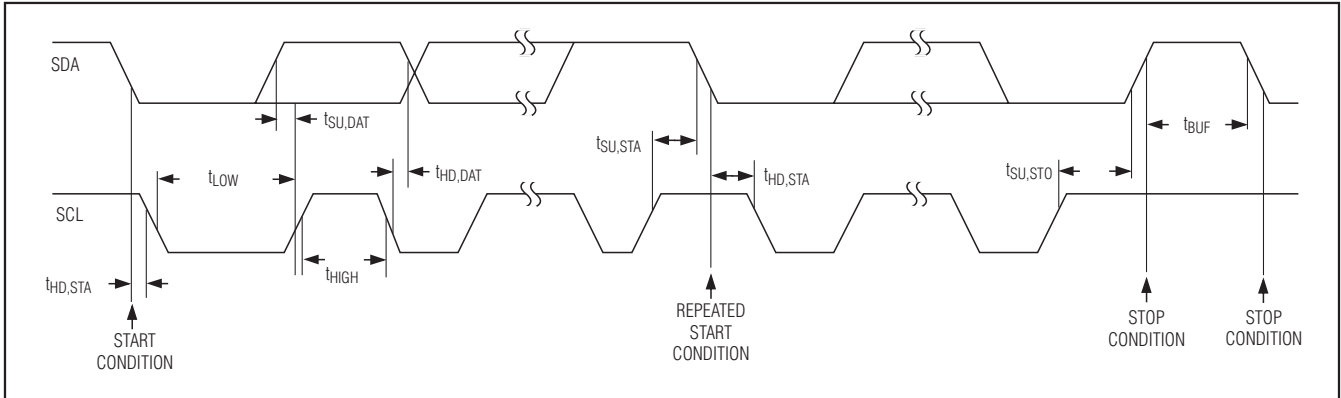
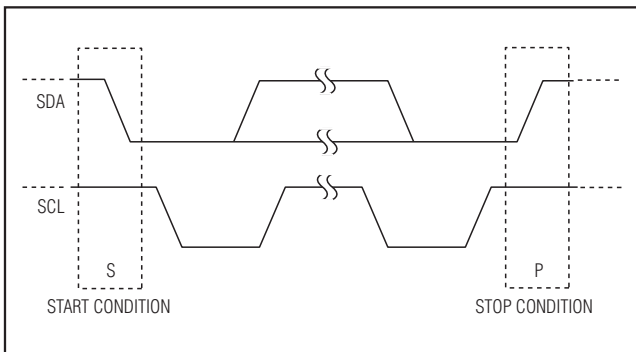

Figure 5. I2C Interface Timing Diagram
Figure 6. I2C START and STOP Conditions
The interface uses a serial-data line (SDA) and a serial-clock line (SCL) to achieve bidirectional communication between master(s) and slave(s). A master (typically a microcontroller) initiates all data transfers to and from the MAX8831, and generates the SCL clock that synchronizes the data transfer (Figure 5). The MAX8831 SDA line operates as both an input and an open-drain output. A pullup resistor, typically 4.7kΩ, is required on SDA. The MAX8831 SCL line operates only as an input. A pullup resistor, typically 4.7kΩ, is required on SCL if there are multiple masters on the 2-wire interface, or if the master in a single-master system has an open-drain
SCL output. Each transmission consists of a START condition (Figure 6) sent by a master, followed by the MAX8831 7-bit slave address plus a R/W bit, a register address byte, 1 or more data bytes, and finally a STOP condition (Figures 5 and 6).
Both SCL and SDA remain high when the interface is not busy. The master signals the beginning of a transmission with a START (S) condition by transitioning SDA from high to low while SCL is high. When the master has finished communicating with the slave, it issues a STOP (P) condition by transitioning the SDA from low to high while SCL is high. The bus is then free for another transmission (Figure 6).